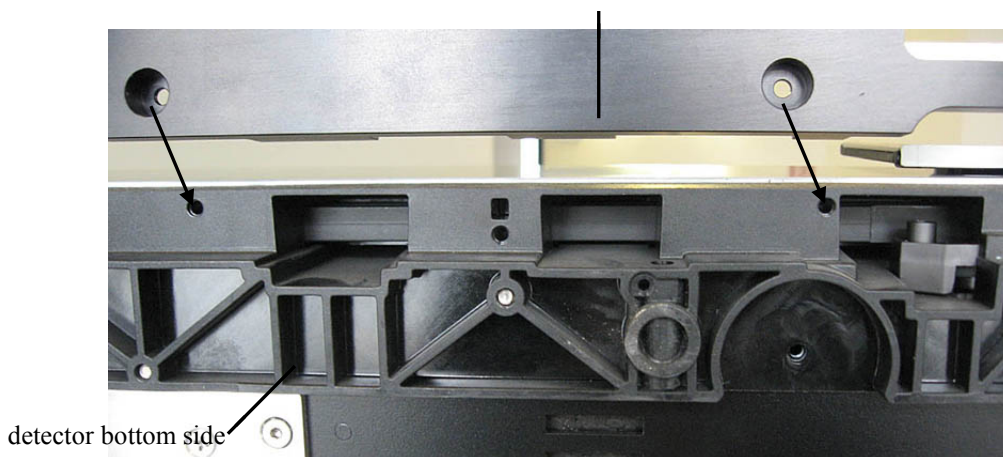

Fig. 7: Recesses on the bottom of the detector
1. Three square recesses on the bottom of the detector are provided to accommodate the flow cell carrier profile. The screws for fixing the flow cell carrier must be screwed into the borings next to the two outer recesses (→ Fig. 7).